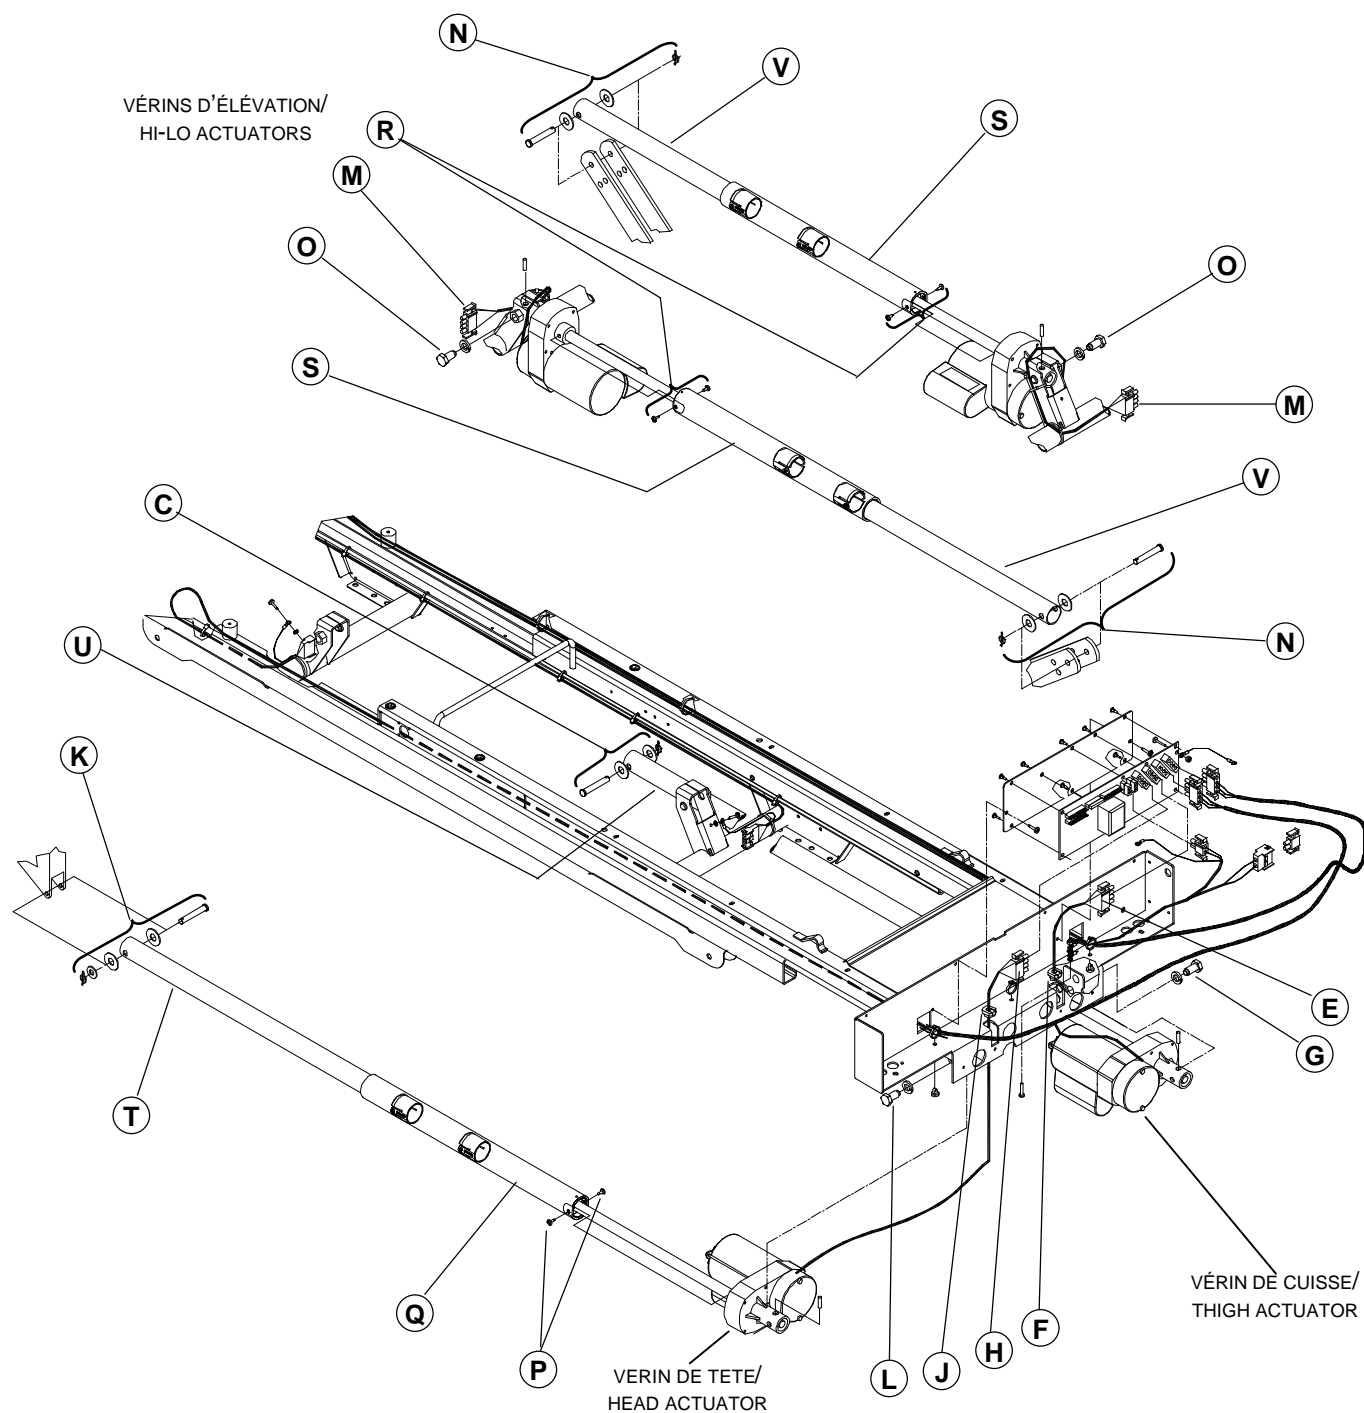

Figure 4.10
4. Using needle nose pliers, remove the Rue ring/nylon washers(2)/clevis pin (C, fig. 4.10, page 50) hooking up the thigh actuator tube (U, fig. 4.10, page 50) to the thigh section lever arm.
4. Using a Phillips screwdriver, remove the two mattress side retainers (A) and save them for the replacement head section.
6. Using needle nose pliers, remove the Rue ring/nylon washers(3/clevis pin (K, fig. 4.10, page 50) hooking up the head actuator tube (T, fig. 4.10, page 50) to the head section lever arms.
Unless otherwise stated, all reference points contained in section 4.10 procedures will refer to figure 4.10 above.
All reference points contained in this procedure will refer to fig. 4.10 on page 50.
5. Using a slotted screwdriver and a 5/16" wrench, remove the two screws (P) holding the plastic dust tube of the knee actuator and the head actuator tube support (Q) (the two screws and the dust tube of the knee actuator are not illustrated on fig. 4.10) and slide back the dust cover and the actuator tube support to uncover the actuator screws and the beginning of the actuator tubes.